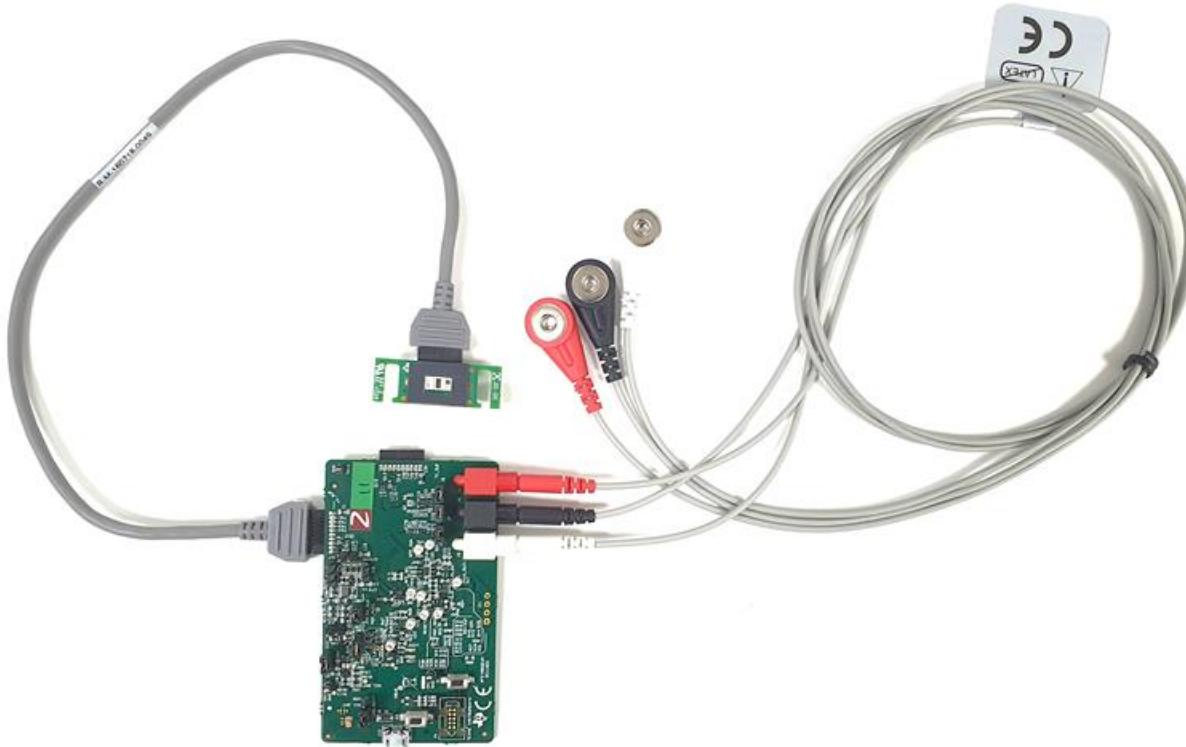

Figure 7. Connecting the ECG cables to the EVM
- b. Based on the colors, connect the ECG cables to the ECG connectors of AFE4950EVM (i.e. J4, J6 and J9) as shown in Figure 7.